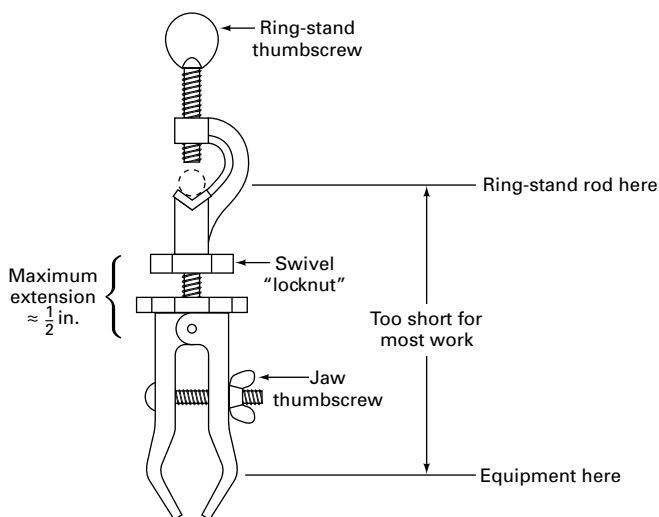

FIGURE 18.1 The "barely adequate for organic lab" buret clamp.
1. **The simple buret clamp** (Fig. 18.1). Though it's popular in other chem labs, the simple buret clamp just doesn't cut it for organic lab. The clamp is too short, and adjusting angles with the locknut (by loosening the locknut, swiveling the clamp jaws to the correct angle, and tightening the locknut against the *back stop*, away from the jaws) is not a great deal of fun. If you're not careful, the jaws will slip right around and all the chemicals in your flask will fall out.